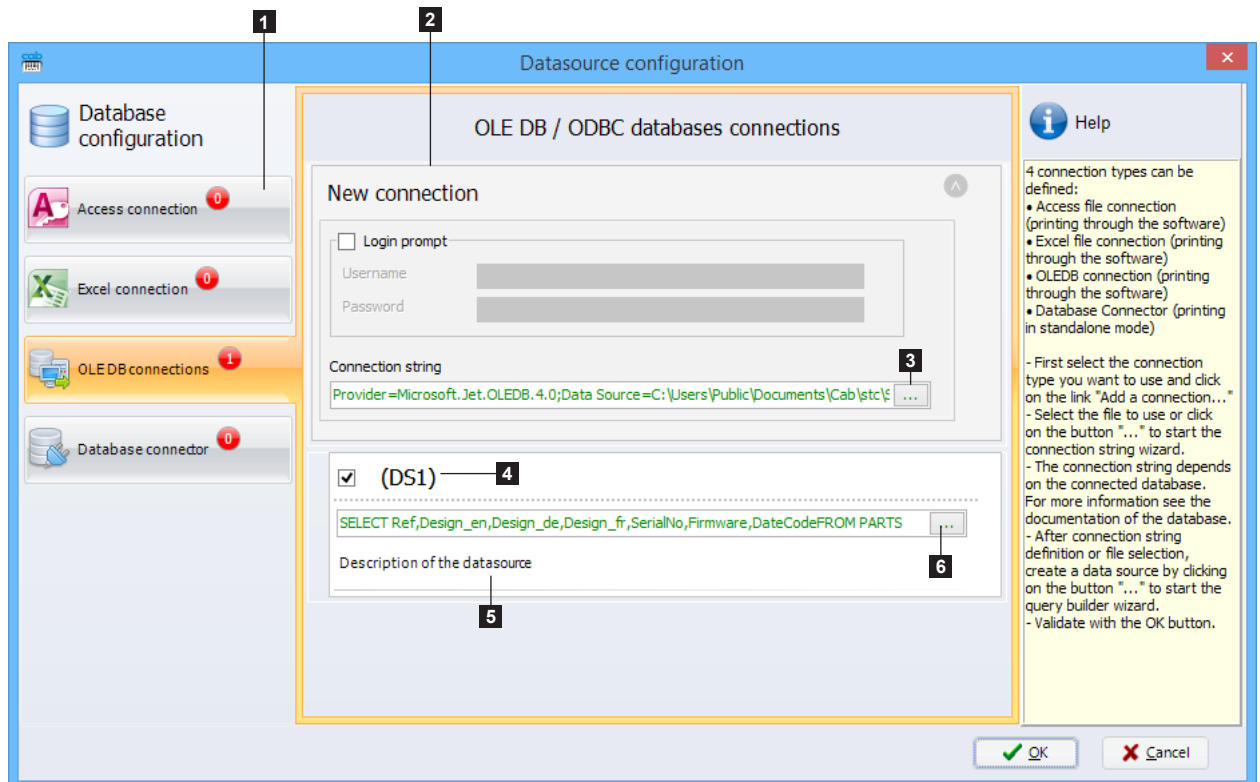

Figure 84 Database wizard
- ▶ Select the desired language(s) (1) in the list (▷ Figure 84).
- ▶ Select the type of formatting to apply (2): bold, italic, underline, lowercase conversion, uppercase conversion, font color.
- ▶ Validate with the OK button (3).